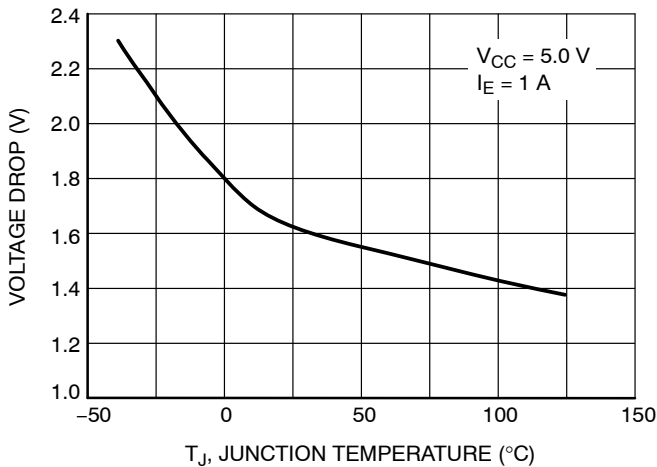

Figure 7. Emitter Follower Configuration Output Darlington Switch Voltage Drop vs. Temperature
- 8. V_{SWCE} – Darlingon Switch Collector to Emitter Voltage Drop, refer to Figures 7, 8, 9 and 10.